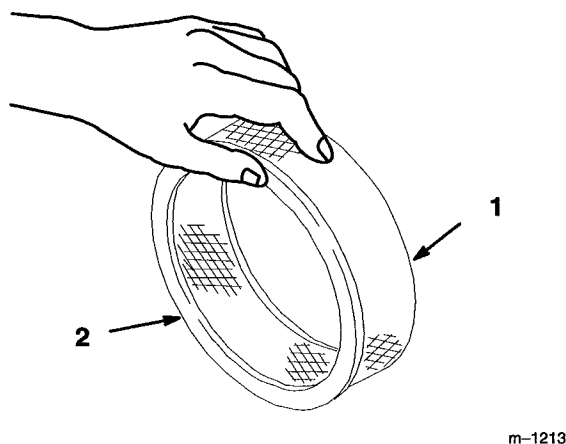

Figure 16
- A. Lightly tap the element on a flat surface to remove dust and dirt (Fig. 16).